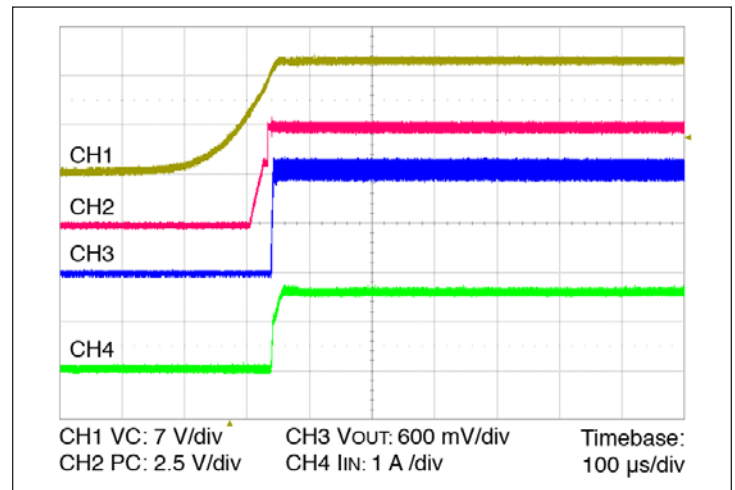

Figure 14 — Start up from application of VC;  $V_{IN}$  pre-applied
- Stand Alone Operation (VC applied after VIN): In this case the module output will begin to rise upon the application of the VC voltage (See Figure 14). The Adaptive Soft Start circuit (See Section 10) may vary the output rate of rise in order to limit the inrush current to its maximum level. When starting into high capacitance, or a short, the output current will be limited for a maximum of 900  $\mu$ sec. After this period, the adaptive soft start circuit will time out and the module may shut down. No restart will be attempted until VC is re-applied, or PC is toggled. The maximum output capacitance is limited to 5000  $\mu$ F in this mode of operation to ensure a successful start.